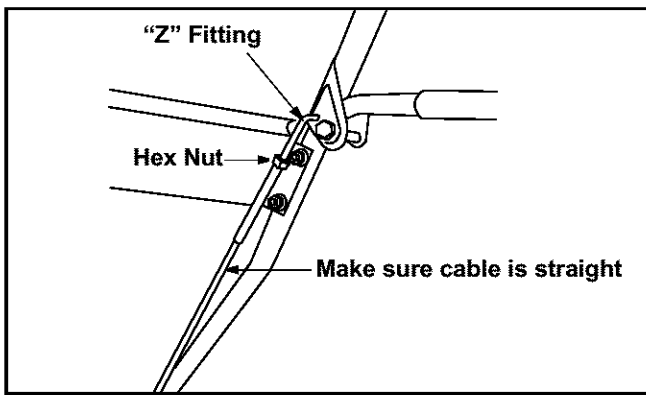

Figure 9
- Thread the jam nuts all the way up each of the "Z" fittings, toward the handle panel. See Figure 9.
- Thread the coupling end of the cable onto the threaded portion of the "Z" fitting until the rubber bumper (located on the underside of the clutch lever) only lightly contacts the upper handle. Refer to Figure 9.
- Thread the jam nuts all the way up each of the Z fittings, toward the handle panel. See Figure 9.